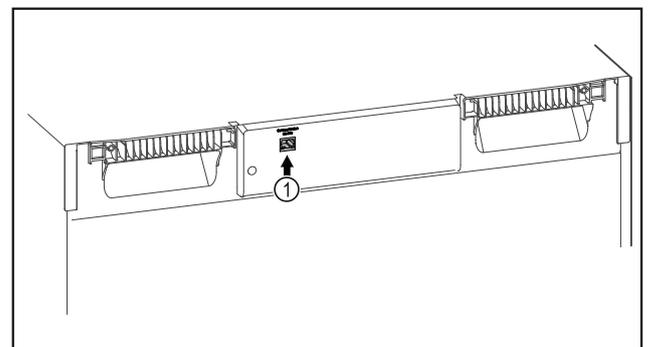

Fig. 107
- SmartModule Fig. 107 (1) is in use.